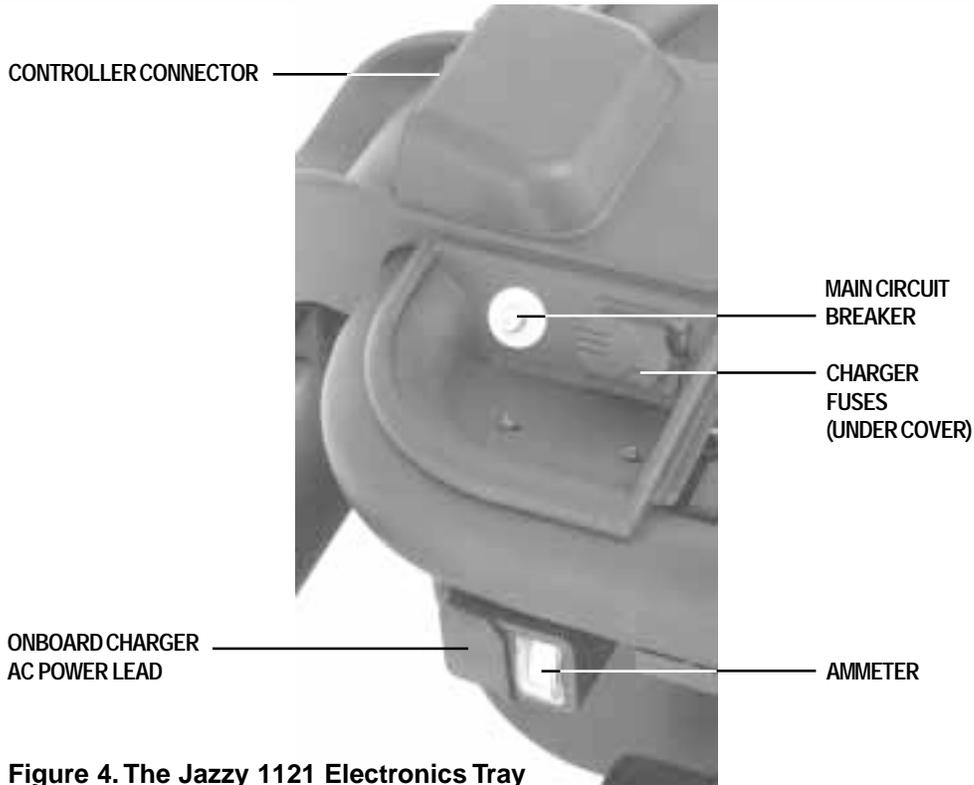

Figure 4. The Jazzy 1121 Electronics Tray
5. Plug the controller cable(s) into the connector on the electronics tray. See figure 4.